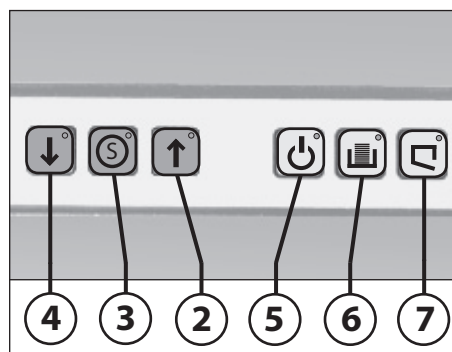

fig. 2
2 = „Cutting system forward“ pushbutton (fig. 2)
3 = „Cutting system stop“ pushbutton (fig. 2)
4 = „Cutting system reverse“ pushbutton (fig. 2)
5 = Pilot lamp „ready“ (fig. 2)
6 = Pilot lamp „receptacle full“ (fig. 2)
The pilot lamp marked „ready for operation“ (5), as well as the red stop-button „S“ (3) (fig. 2) will light to indicate that the machine is ready for operation.
When the receptacle is full, the machine turns off automatically and a horn sounds. The pilot lamp (6) (fig. 2) lights up. Empty the receptacle as follows:
- Open door. The pilot lamp (7) (fig. 2) lights up.
- The horn stops. The pilot lamp (6) goes off.
- Place empty sack into receptacle, push in the receptacle and close door. The pilot lamp (7) goes off.
- The pilot lamp of the stop-putton „S“ (3) (fig. 2) will light.
- Briefly operate the pushbutton switch for reverse (4) (fig. 2).